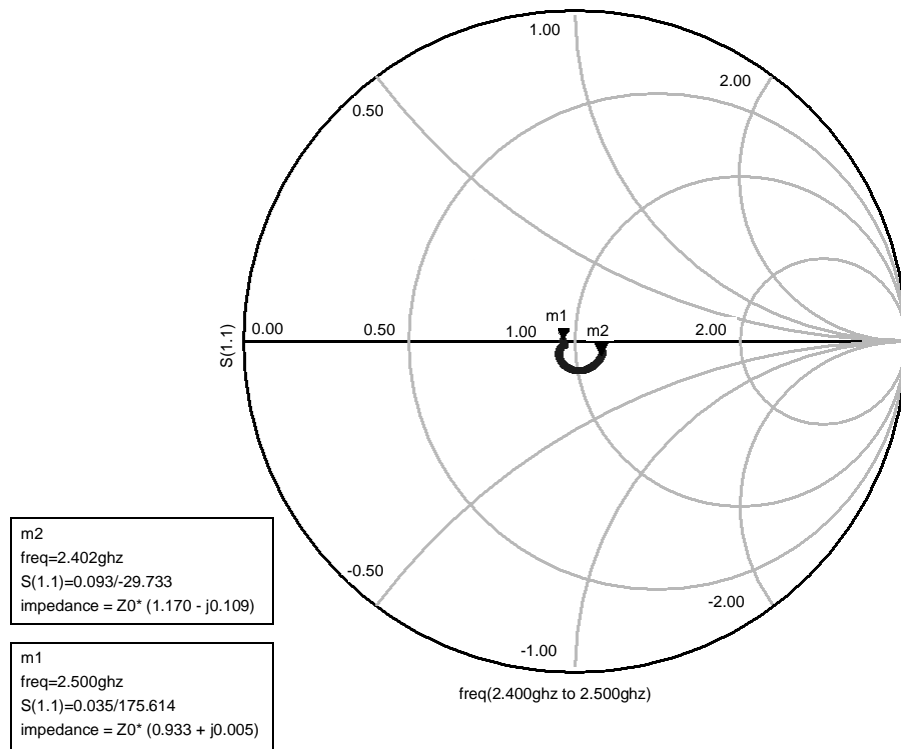

Figure 8. TX and RX Pin 50Ω Impedance Characteristics
4. Reference Smith Chart Figure 8 on page 13.
7. Reference Smith chart Figure 8 on page 13.